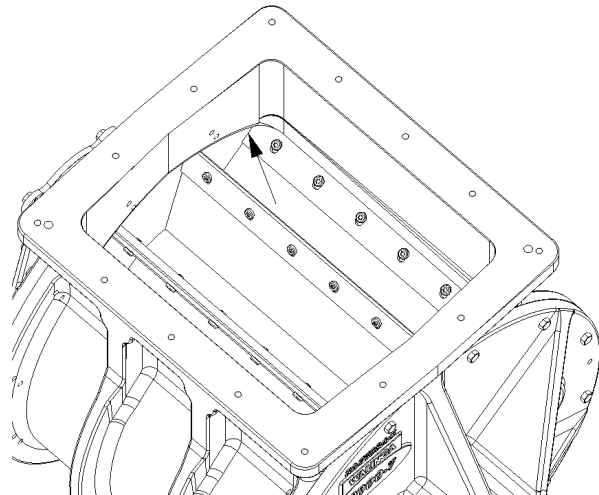

Figure 7-39: Rotor and end plate clearance
- e. Use a feeler gauge to check the clearance between the rotor and the end plate, as shown in **Figure 7-39**. Reference **Table 7-4** for clearance requirements.
- h. Insert the appropriate feeler gauge with reference to **Table 7-4** between the tip and the end plates, as seen in **Figure 7-39**, to ensure the proper clearances are maintained.
- d. Loosen and remove the tip retaining screws using the 1/4" allen key and remove the tip from the casing, the bottom port of Blow-Thru (BT) units are a convenient removal point.